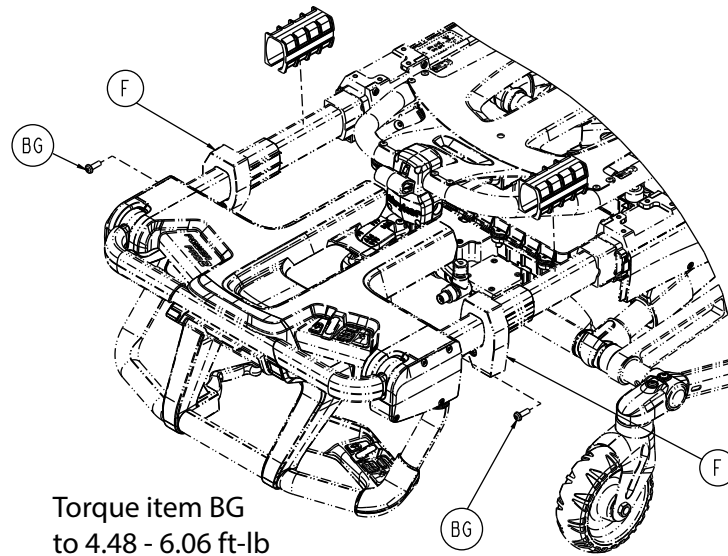

Figure 101 –
9. Using a T30 Torx driver, remove the pan head machine screw (BG) that secures the outer rail end cap (F) to the outer rail (Figure 101). Repeat on the other side. Save the screws.